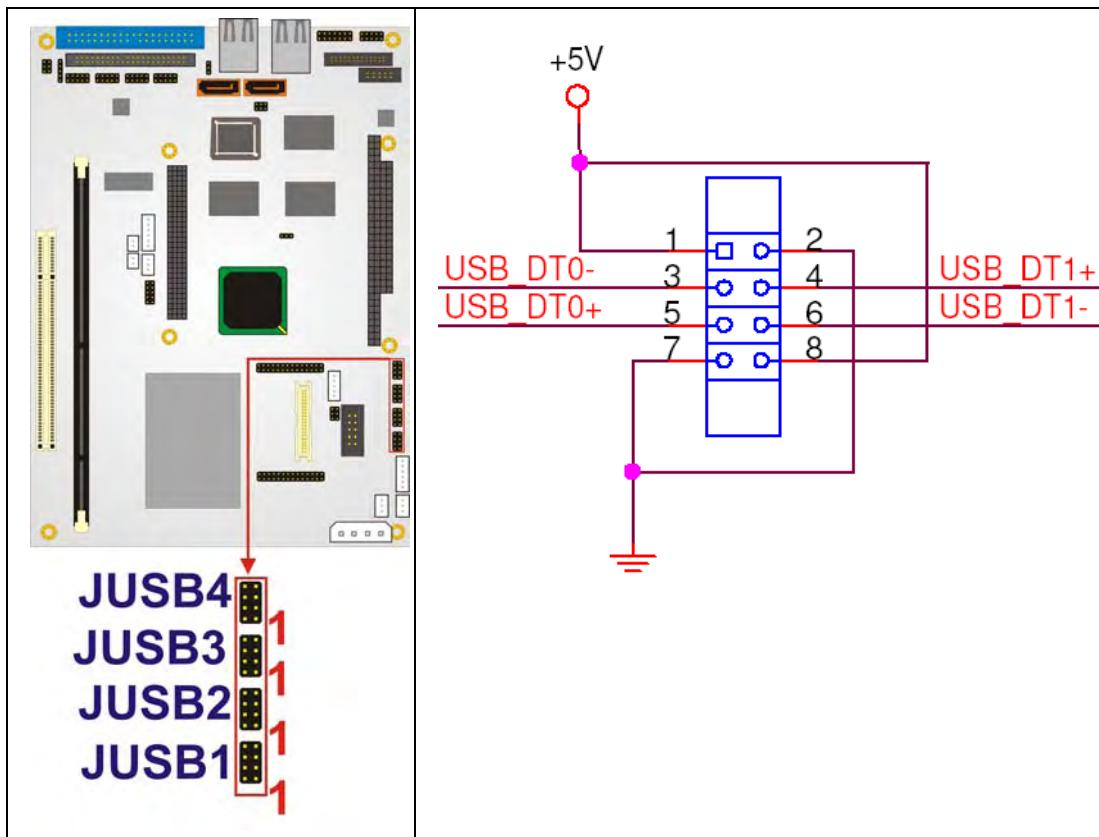

Figure 3-29: USB Connector Pinout Locations
- CN Location:** See Figure 3-29
CN Location: See Figure 3-29